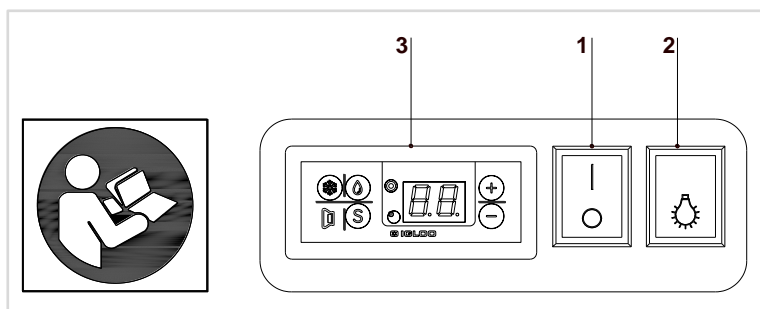

Fig. 2 Typical control panel
- The control panel (Fig. 2) includes, amongst others: thermostat panel (3) and switches (main switch) (1), light switch (2)). Pres the main switch to activate the thermostat, and then the refrigeration unit.